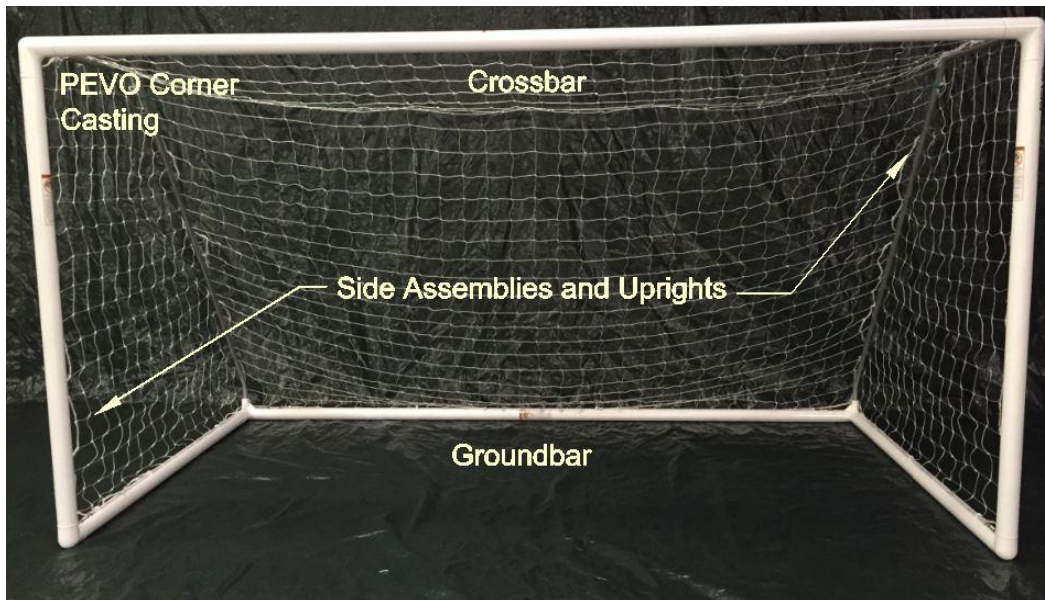

Figure 4. Completed goal with labeled components.
12. Ensure all Hardware is properly tightened and net is fully attached. (See Figure 4)